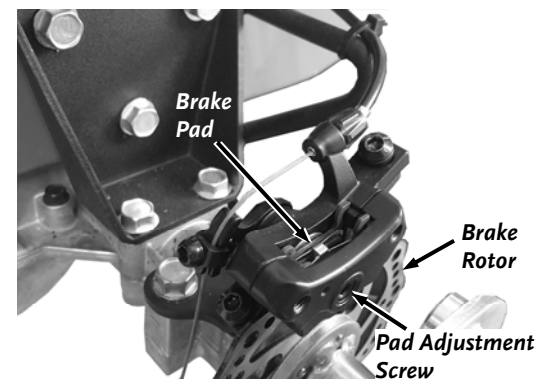

Figure 47
2. Locate the Pad Adjustment Screw on the outboard side of the caliper (**Figure 47**).